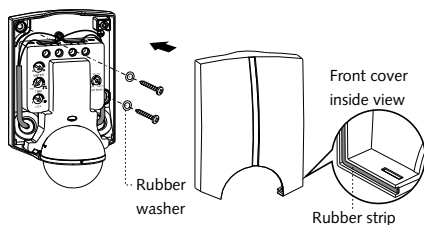

Fig. 8
- DO NOT take off the rubber strip and make sure it lies in the front cover perfectly (See Fig. 8).